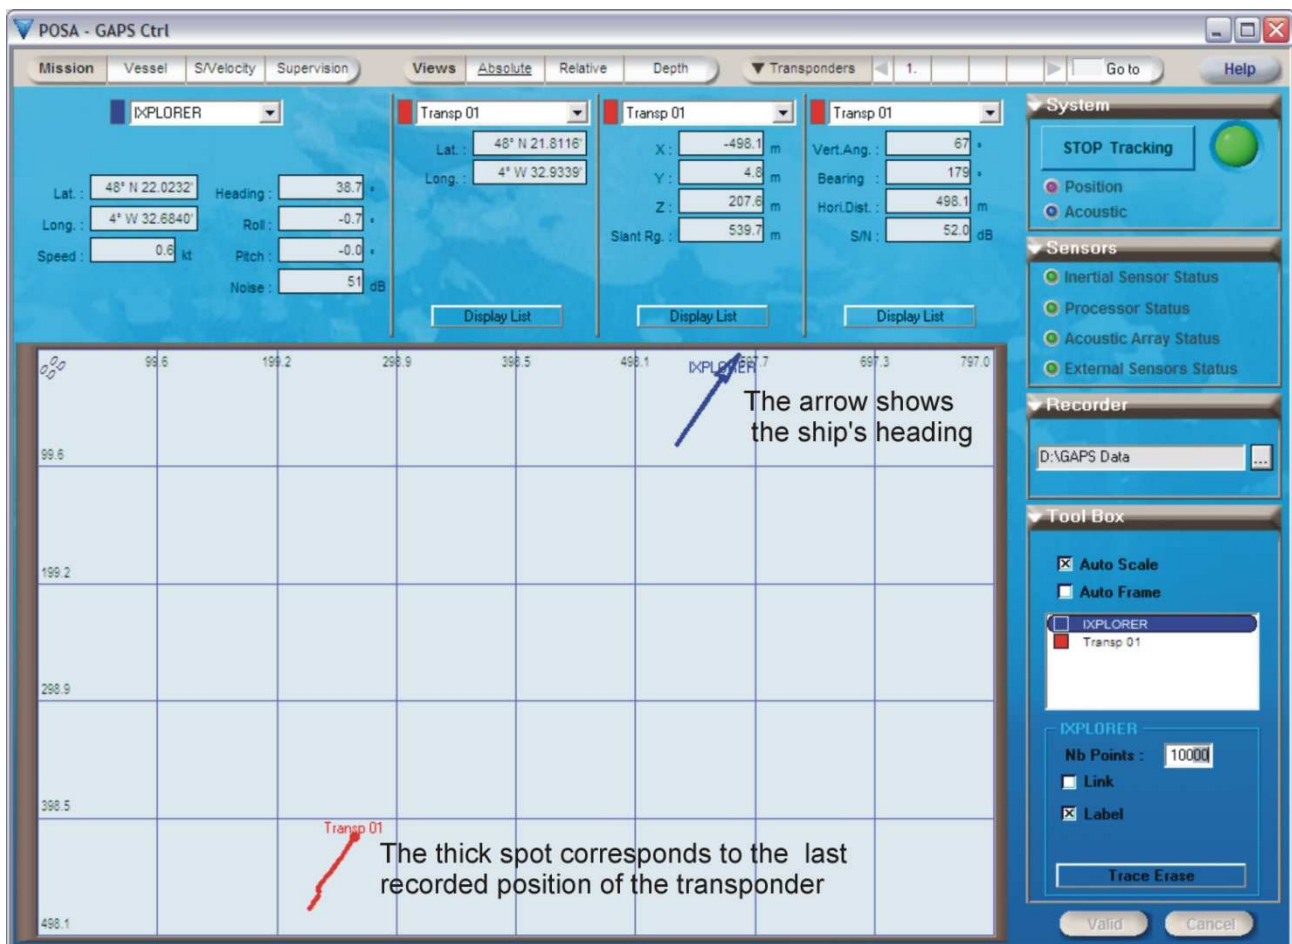

Figure 44 - Absolute view
The corresponding window (see Figure 44) appears.
- ☐ Then click on the box of the selected mobile (for example, in the  of the fish mobile in the Figure 44): the cross-mark is now displayed in the box of the selected mobile.
A bigger spot than all the others symbolizes the last position of the displayed point. It represents the last known position of the mobile. The arrow, which represents the ship, is oriented following the current ship heading (see Figure 44).